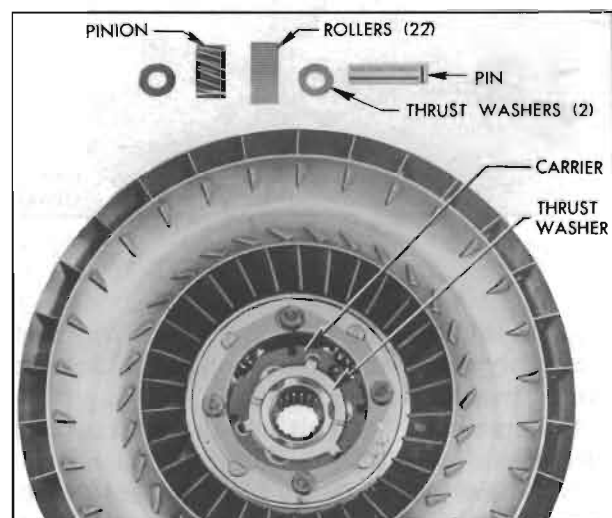

Figure 5-45—Second Turbine Parts
5. Install pinion pin lock plate so that it enters the notches of all pins, then install the four turbine-to-carrier bolts with lockwashers. See Figure 5-45.
8. Place tanged thrust washer in second turbine carrier and install sun gear in second turbine assembly. See Figure 5-45.